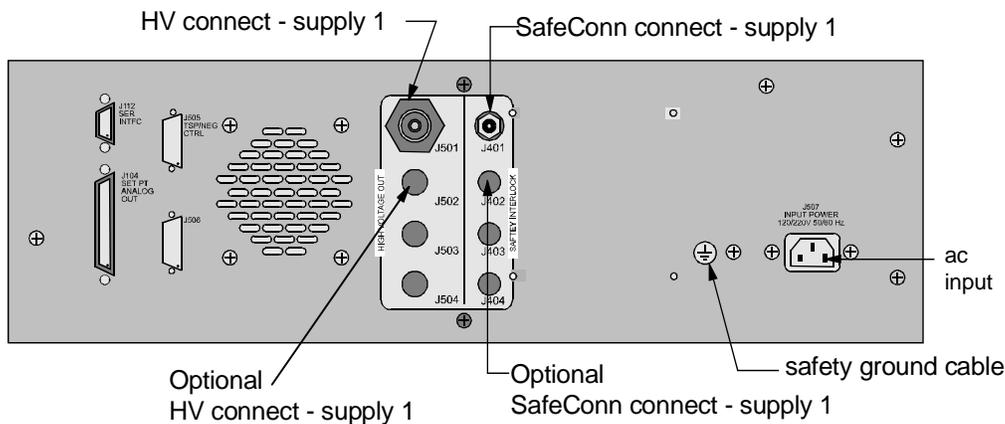

Figure II-1. MPC Rear Panel HV and SAFECONN Connectors.
2. Connect the safety ground cable between the pump and safety ground stud at the DIGITEL rear panel (Figure II-1).
3. Connect the high voltage cable to the ion pump and to the appropriate high voltage jack on the DIGITEL rear panel. See Figure II-1 and Table II-1.
4. If you have the optional SAFE-CONN feature, an additional connector is part of the HV connector. Connect it to the appropriate SAFE CONN jack. See Figure II-1 and Table II-1.